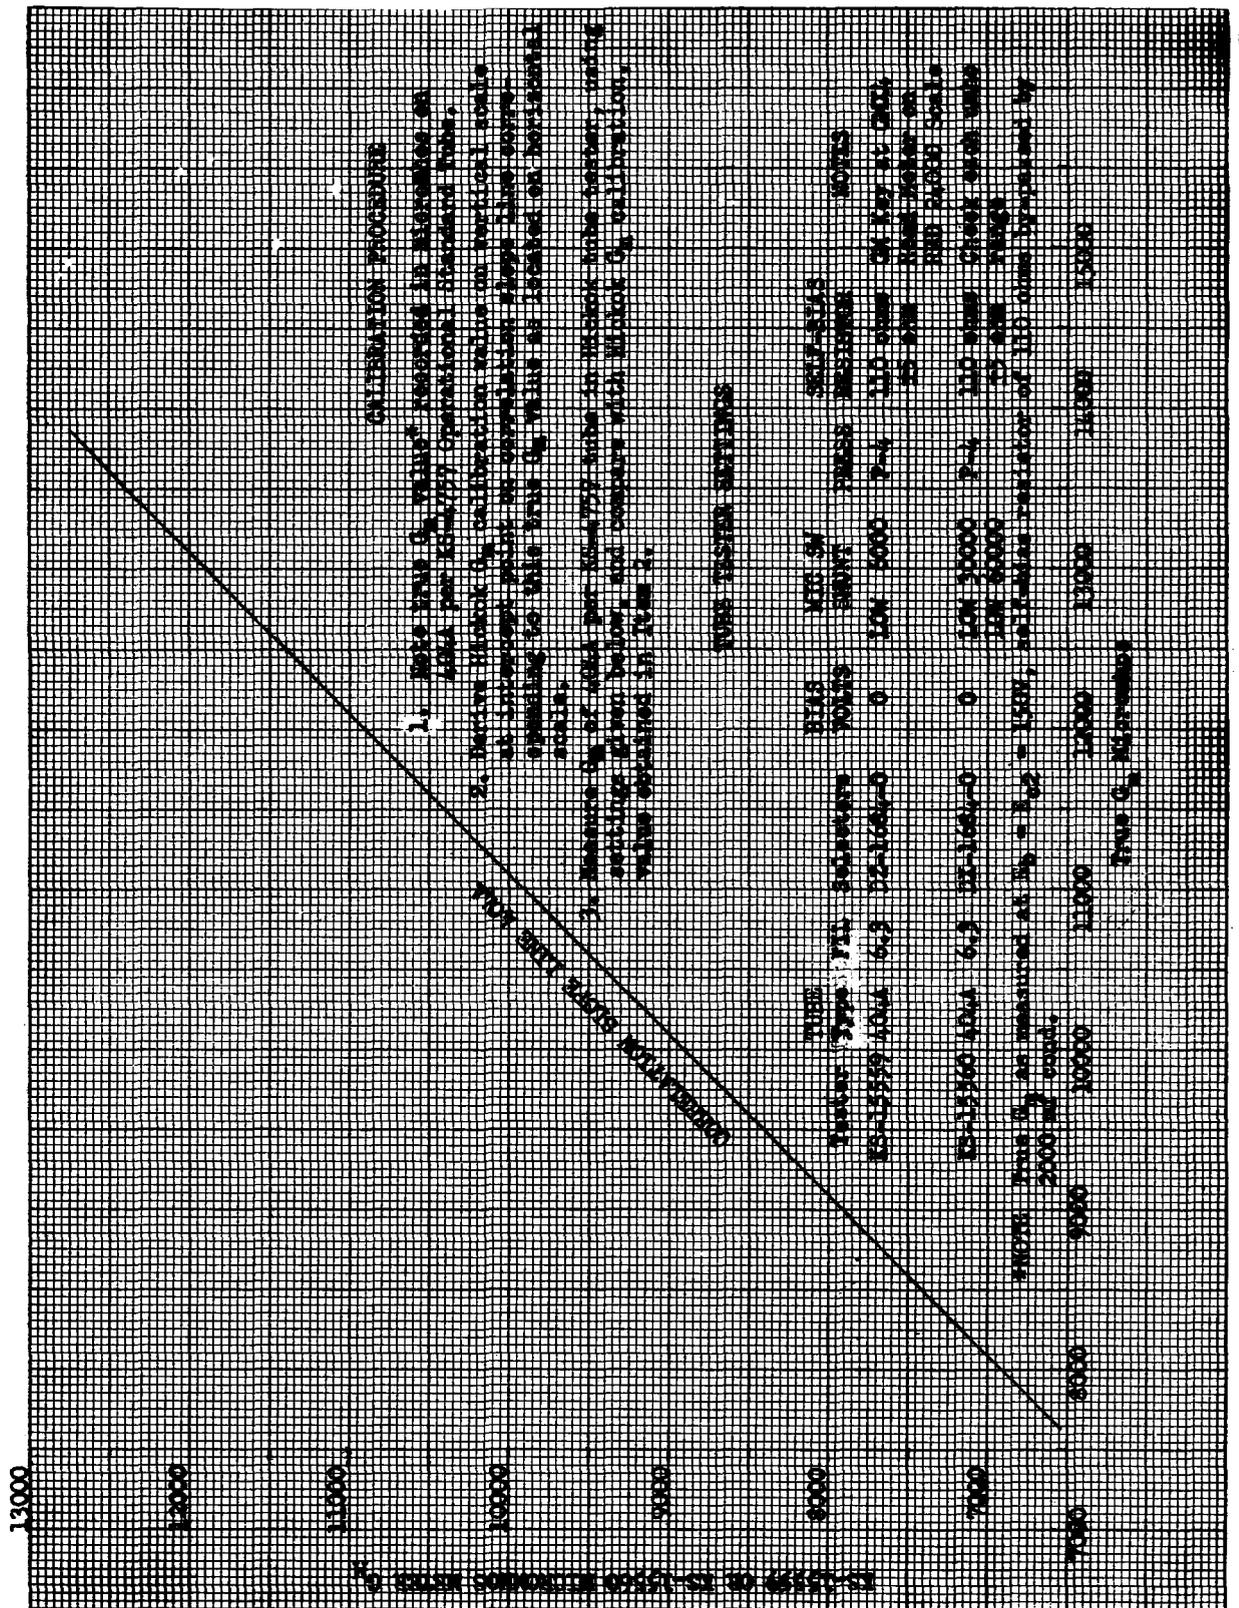

Fig. 8 - Calibration Data, 404A per KS-4757
5.11 LOW SIGNAL 30,000 (1/2 volt) Grid Signal Test - Self-bias Operation: An operating test is made using a Western Electric Company operational standard 404A tube per KS-4757. The calibration chart (Fig. 8) for this tube is used to establish the Hickok Gm micromhos reading as described on this chart. This Hickok Gm value will be used as the standard value with which the measured Gm is compared. This operating test is made in accordance with the tube tester settings noted on the calibration chart (repeated here) with CATH. ACT. switch at NORMAL and the proper self-bias resistor connected across the unstrapped SELF BIAS binding posts. The micromhos meter reading is compared with the derived calibrated value for this tube.
Requirement: The measured Gm should be within ± 6 per cent of the value derived from Fig. 8 for the true Gm marked on the operational standard tube.